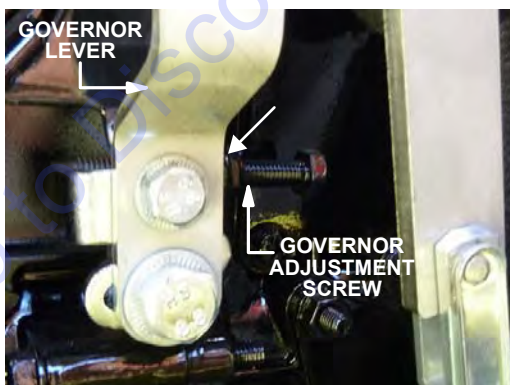

Figure 11. Governor Lever
7. Make sure the governor lever (Figure 11) rests against the governor adjustment screw when the engine is at idle.